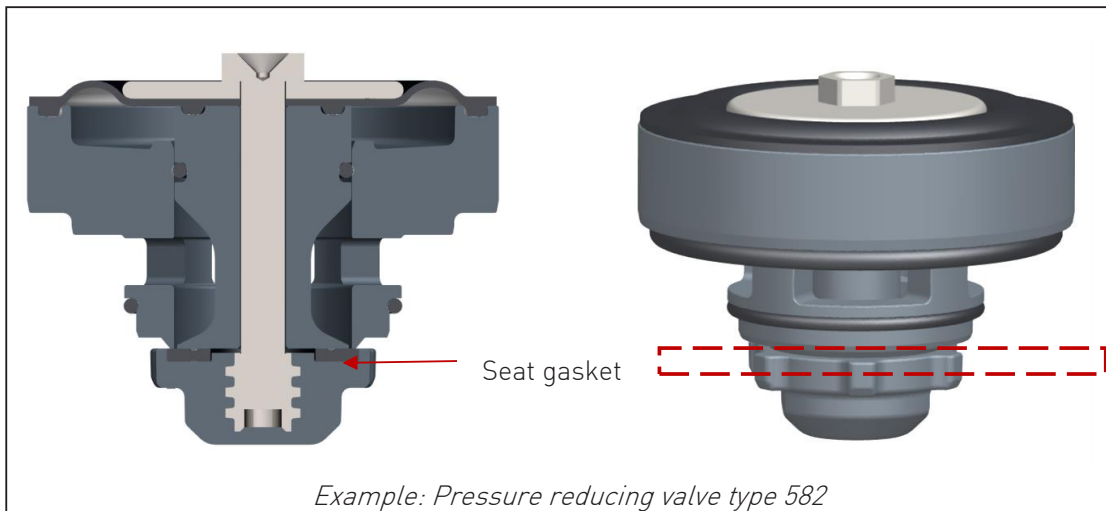

Fig. 16
- ▶ Check and clean the area of the seat gasket, see Fig. 16